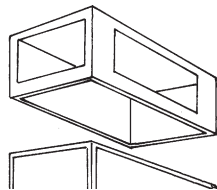

Fig.1
- a head of the "plenum" type with four lateral openings and adjustable fins which send the hot air in the desired direction (Fig.1).